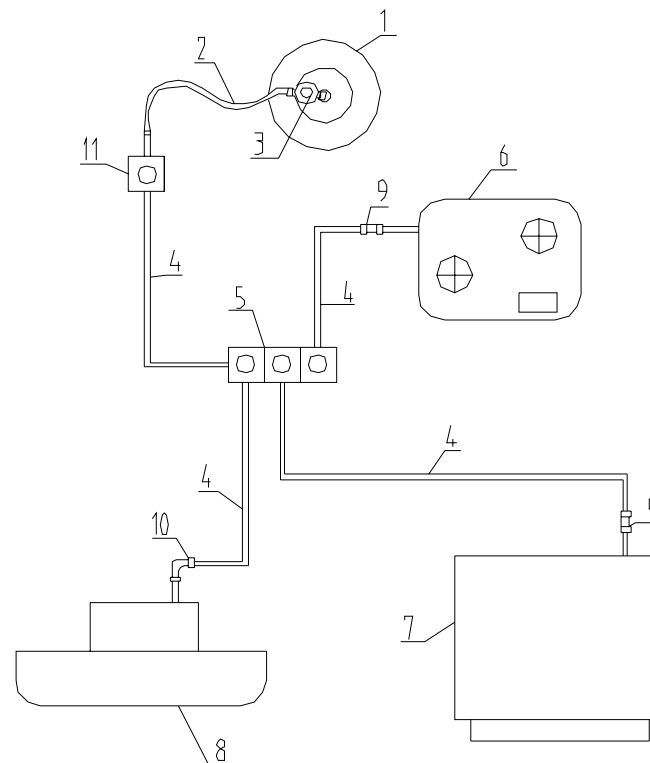

Fig. 3
2. The emergency cable shall be hooked up so as to ensure that it pulls the caravan's brakes in cases where the ball-type coupling separates while driving. In order to do that make a loop of the rope, put it onto the mandrel under the hook ball and fix the snap hook on the rope, so as to make it impossible for the rope to slide off the mandrel (Fig.3).